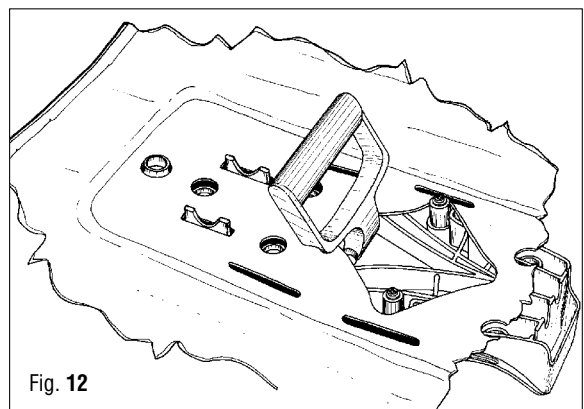

Fig. 12
96. Insert tank plate support assembly (15) under integrated system, and make knob protrude from central opening of bag. (Fig. 12)
CHECK THAT BAG ROUND OPENINGS ARE ALIGNED WITH THREADED SEATS OF PLATE AND THAT THE 7-WAY MANIFOLD SUPPORTS PROTRUDE FROM THEIR SLOTS. (FIG. 12)